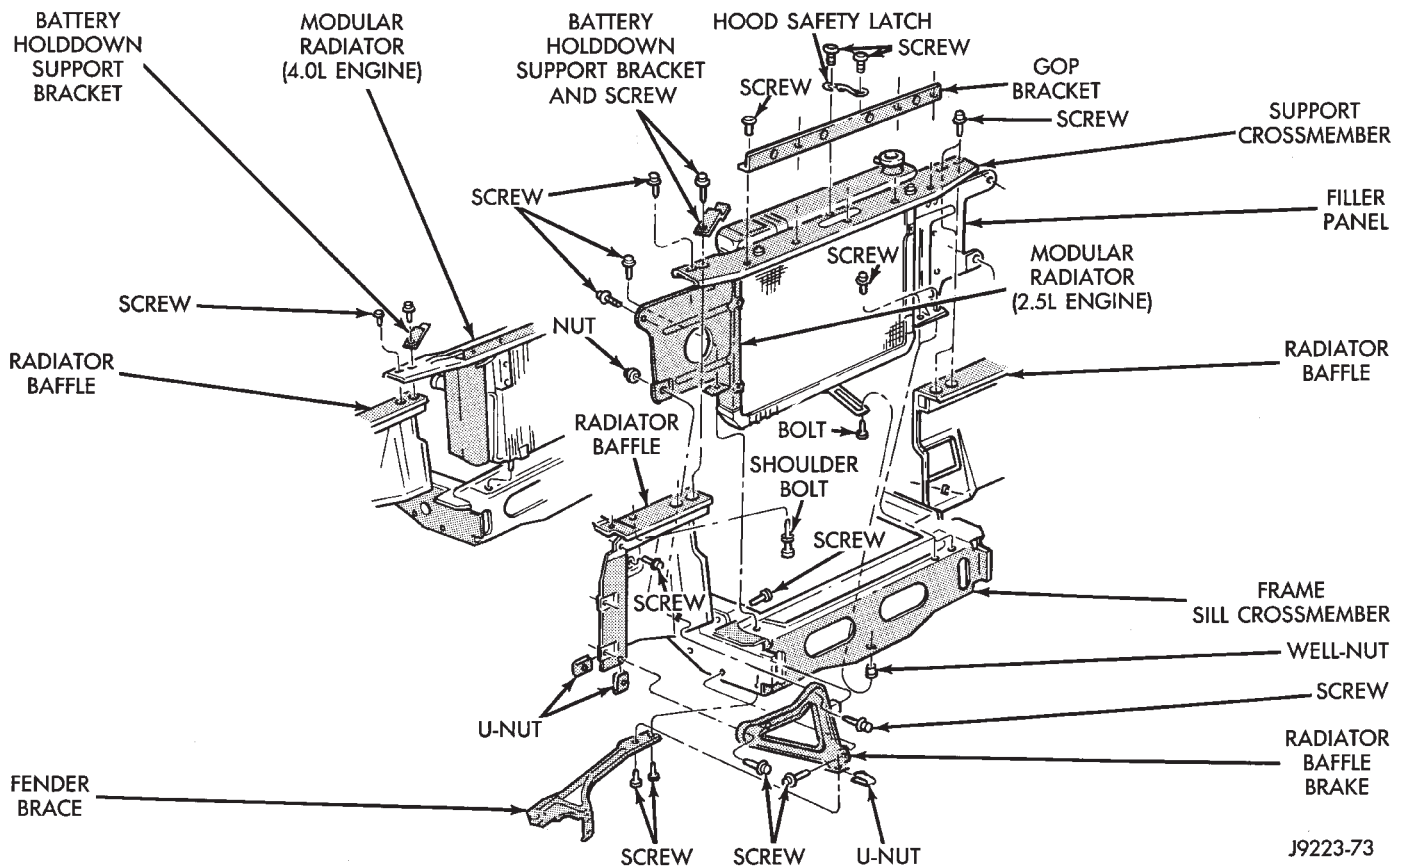

Fig. 10 Radiator Support Crossmember & Modular Radiator
- (3) Remove the radiator support crossmember and radiator from the front of vehicle (Fig. 10).
crossmember at the front of vehicle (Fig. 10). Install and tighten screws to 9 N·m (76 in-lbs) torque.